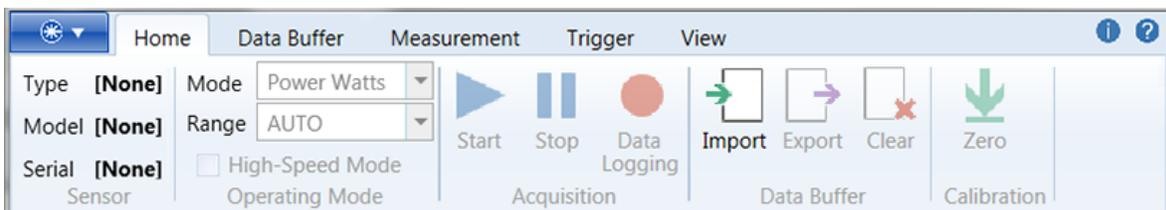

Figure 6-3. Home Tab
2. [Home tab] To take a basic power measurement, verify that the check box for **High-Speed Mode** is *not* checked in the Home tab, as shown in Figure 6-3: